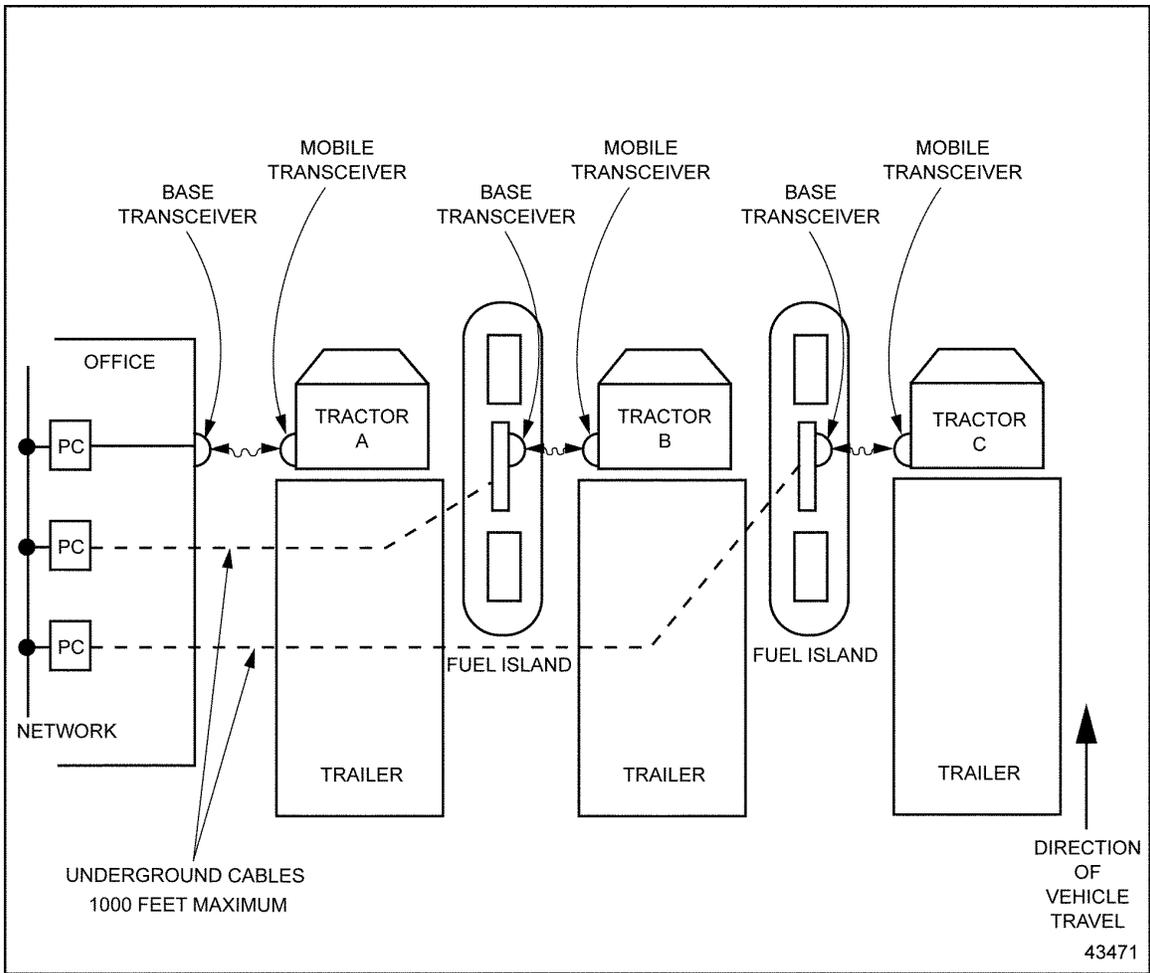

Figure 7 Multiple Transceivers, Multiple Lanes Providing Simultaneous Servicing
- ❑ Multiple Transceivers covering multiple lanes for simultaneous servicing of multiple vehicles. See Figure 7.